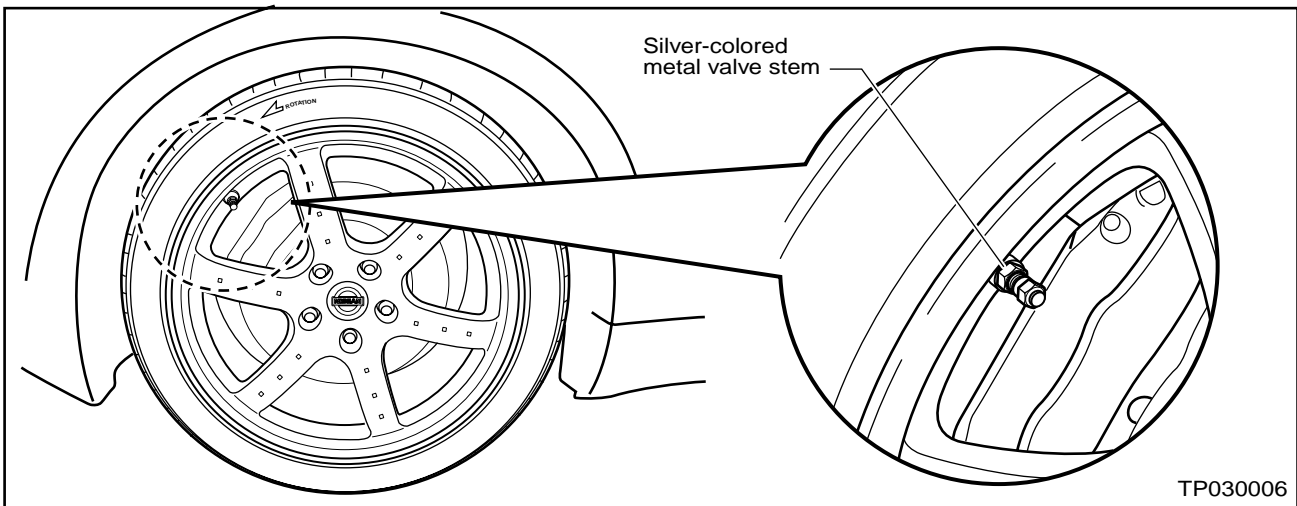

Figure 2
- B. If the valve stems are **silver-colored metal-type** (see Figure 2) use a **non-permanent** marker to mark the stem **Left**, or **Right**. Then follow the **CAUTIONS** (below and on Page 4) before going to Step 4 on page 5.